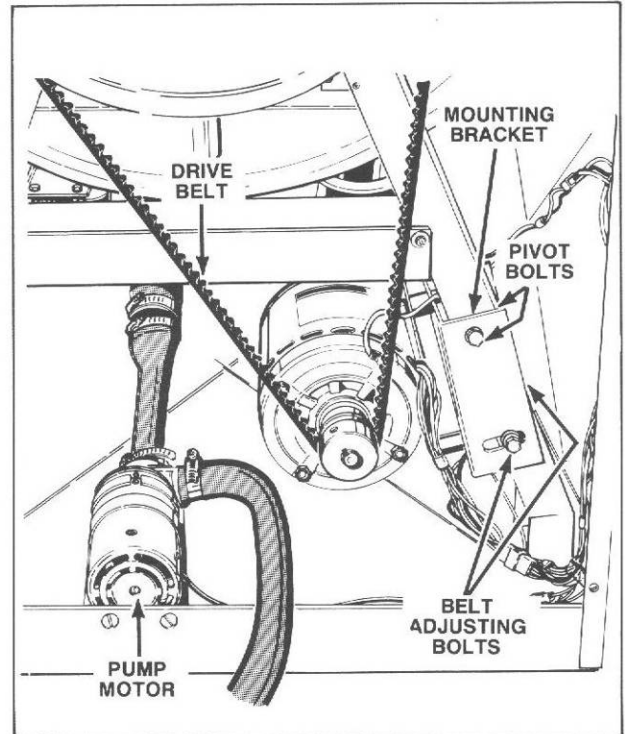

Figure 28
h. Disconnect drive motor wire harness at terminal block and blower motor wires at connectors, *Figure 28*.
i. Pump Models: Disconnect pump motor wires at connectors, *Figure 28*.
### 30. DRIVE MOTOR AND BLOWER ASSEMBLY (Refer to *Figure 28*)
- c. Loosen motor pulley setscrews and remove pulley, *Figure 28*.
### 33. PUMP ASSEMBLY (Refer to *Figure 28*)